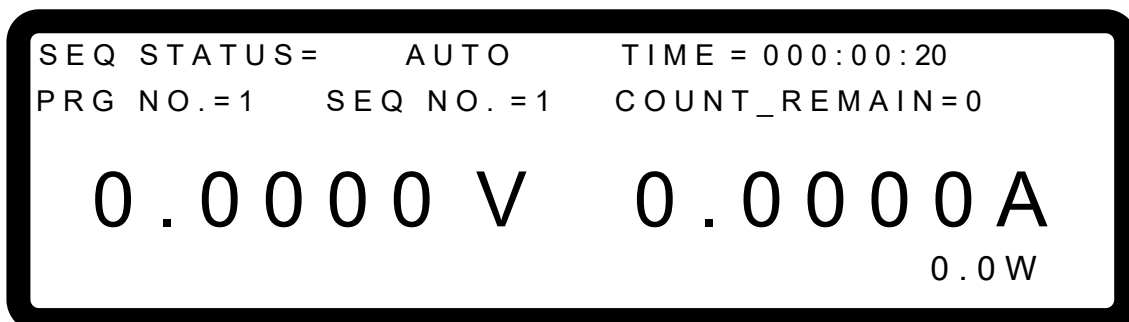

Figure 4-16
2. Press “” again to confirm the execution and go to the MAIN PAGE as Figure 4-16 shows. To quit the execution, press “” will return to the standby MAIN PAGE.